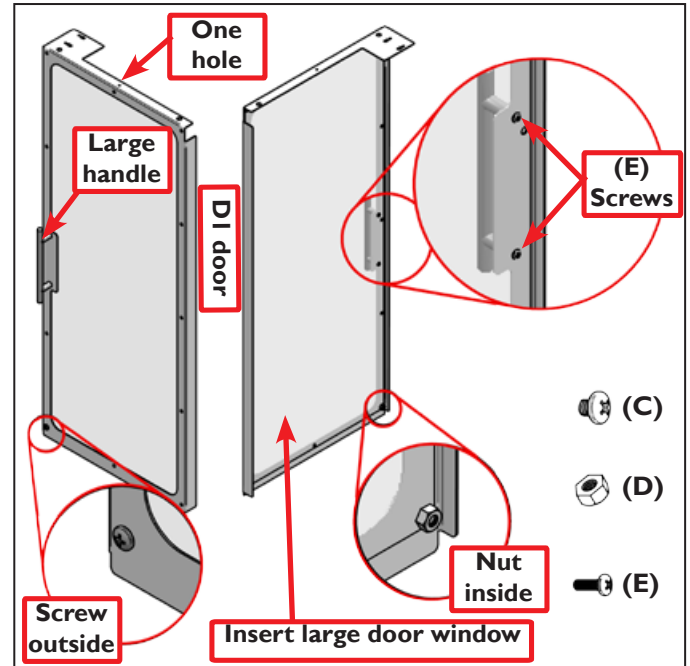

Figure 23
66. Place one Large Door Window (E.12; Tormach PN 34433) inside the D1 Door frame (E.7) and fasten with (C) screws and (D) nuts as seen in **Figure 23**.